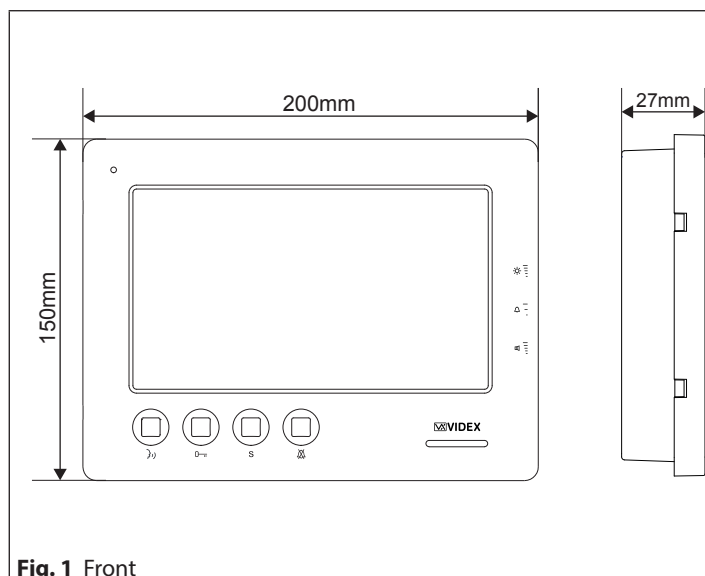
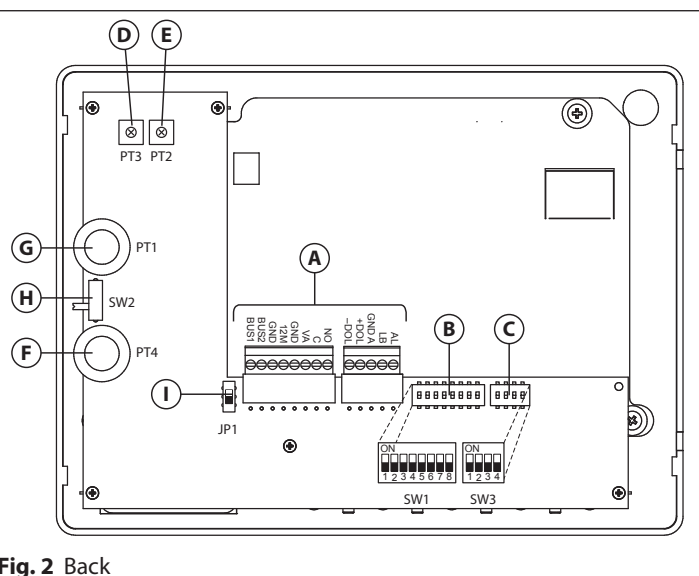

Fig. 1 Front
Fig. 2 Back
1. Place the surface box against the wall (165-170cm between the top of the box and the floor level as shown in **Fig. 1**) and mark the fixing holes for the wall plugs and the hole for the cables **(E)** (**fig. 2**). Observe the orientation of the box with the hinge on the left;
2. As shown on **Fig. 2**, drill the fixing holes **(A)**, insert the wall plugs **(B)** and feed the cables **(E)** through the surface box opening **(D)**, fix surface box **(C)** to the wall using the screws **(F)**;
1. Protect the module support frame fixing holes from dust then embed the back box into the wall (165-170cm between the top of the box and the floor level as shown on the **Fig. 1**) feeding the cables **(E)** (**Fig. 2**) through a previously opened hole in the box. Observe the direction of the box ensuring the hinge is on the left and take care that the box profile is in line with the finished wall profile;